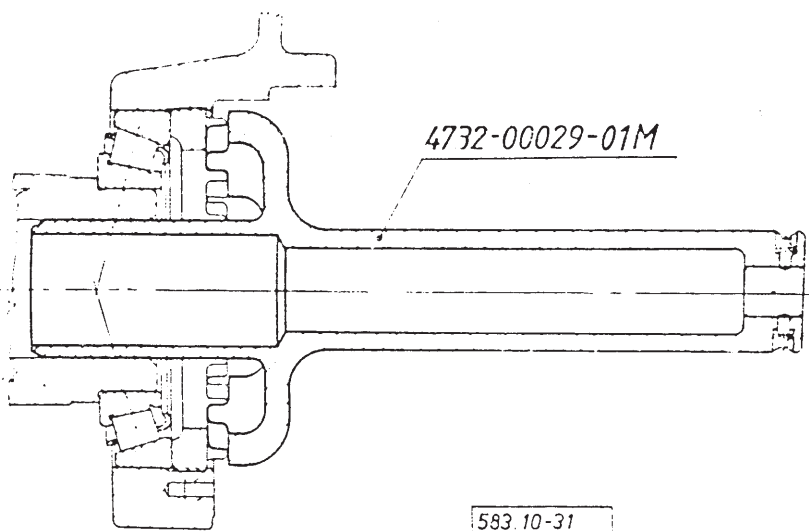

Fig. 1.: ASSEMBLING THE BEARING ADJUSTERS
By means of the tool shown remove the bearing adjusters (20) from both sides (see Fig. 1.).